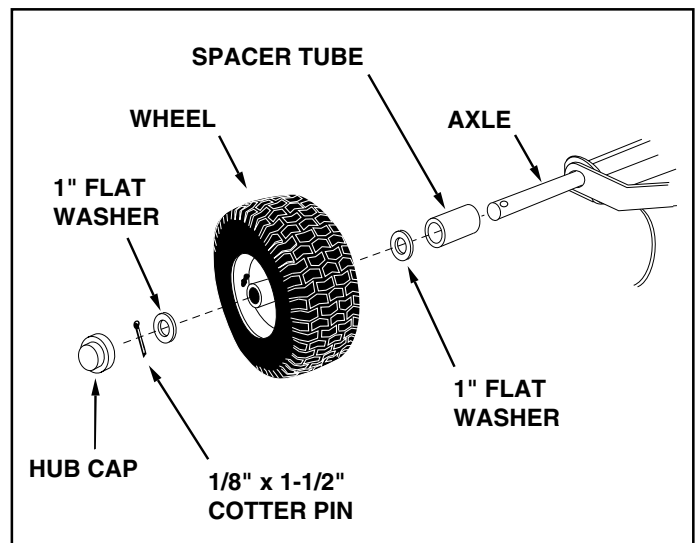

FIGURE 7
14. Assemble a spacer tube onto each end of the axle as shown in figure 7.
15. Assemble a 1" flat washer, a wheel (valve stem facing out), and another 1" flat washer onto the axle as shown in figure 7. Secure the wheel with a 1/8" x 1-1/2" cotter pin, spreading the ends so that a hub cap will fit over the pin. Assemble the hub cap by pressing it onto the flat washer. Repeat on other end of axle.